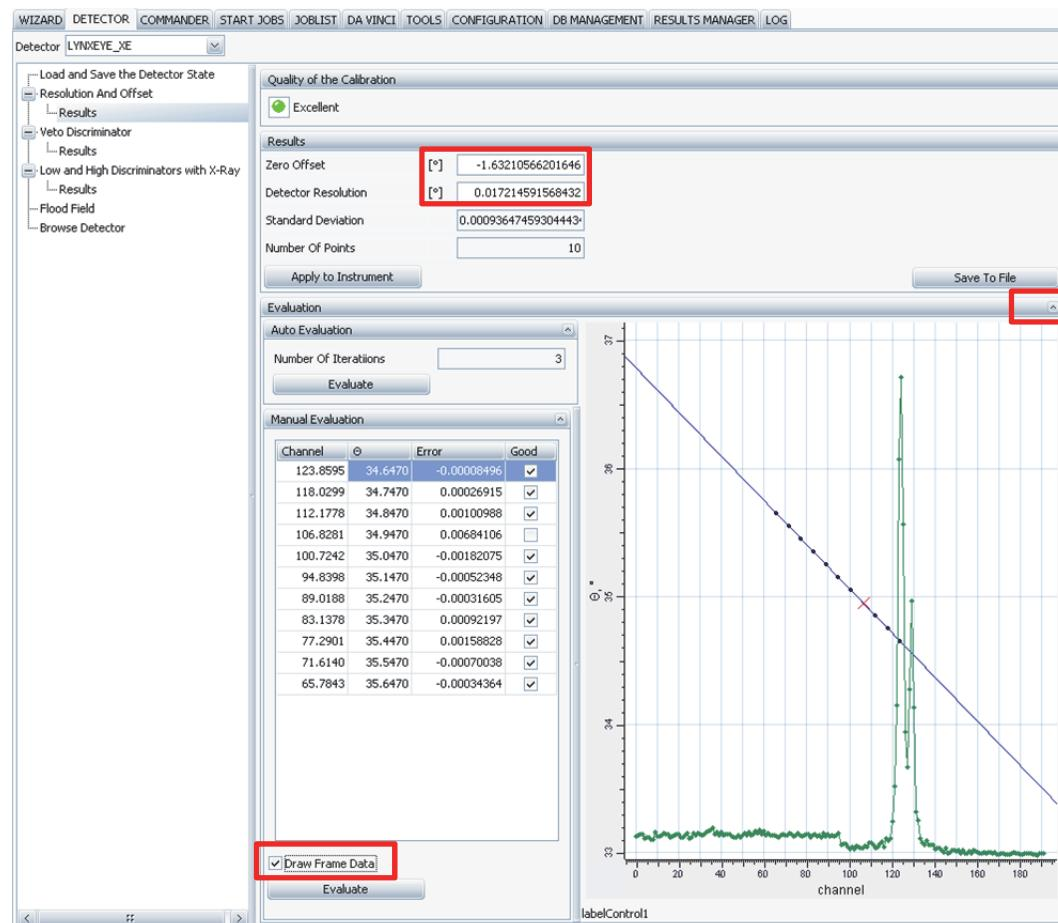

Figure 6.29: Result of the ‘Resolution’ and ‘Offset’ determination
9. As ‘Results’ you get new values for ‘Zero Offset’ and ‘Resolution’. Quality should at least ‘Satisfying’. You must double click on ‘Evaluation’ to open it and check the ‘Draw Data Frame’ box to display the scans, see Figure 6.29.